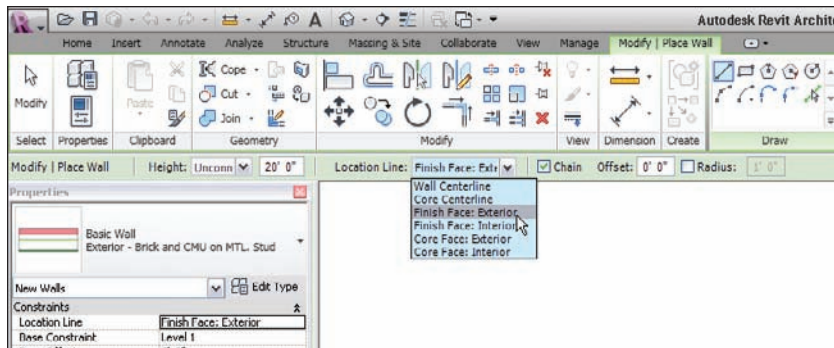

FIGURE 1.16 By selecting Finish Face: Exterior, you know the wall will be dimensioned from the outside finish.
2. Back in the Options bar, find the Location Line menu. Through this menu you can set the wall justification. Select Finish Face: Exterior (see Figure 1.16).
3. On the Options bar, be sure the Chain checkbox is selected, as Figure 1.16 shows. This will allow you to draw the walls continuously.